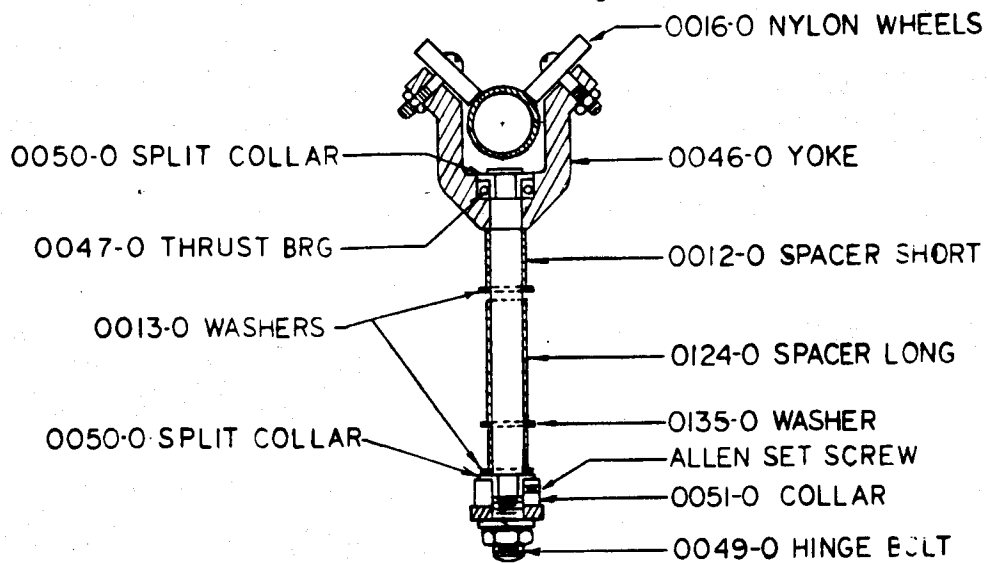

FIG. 6
- (b) Loosen the ¼" Allen Set Screws in the collar (P/N 0051-0) and remove the collar. (See Fig. 6).